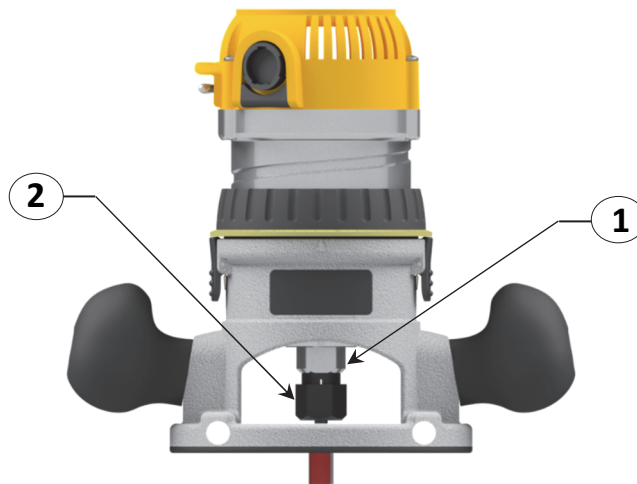

Figure 5.5
- a) Prior to changing bits, ensure no attachment plate is fastened to Router. Utilize provided Wrench set to loosen the Router Bits collet. Hold *Item 1, Figure 5.5* and loosen *Item 2, Figure 5.5* to release the Router Bit.